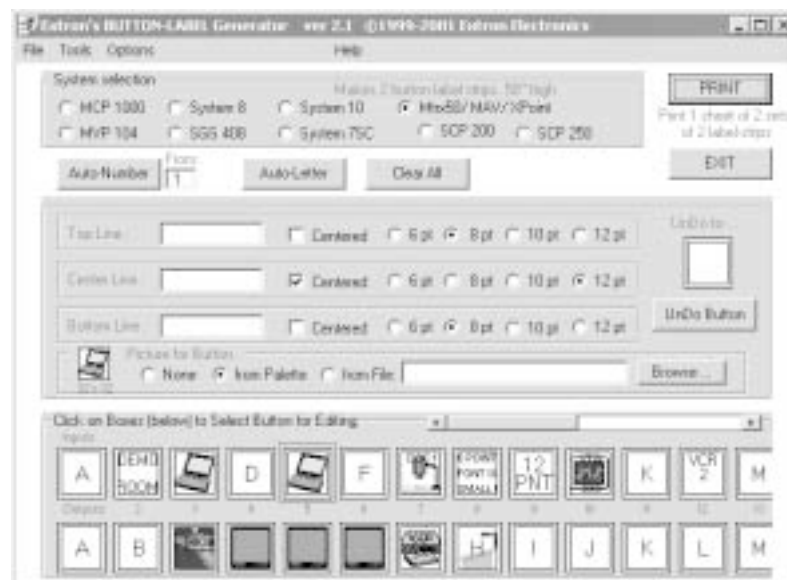

Figure 44 — Extron's Button-Label Generator window
1. To run the Button-Label Generator program, double-click on the Button-Label Generator icon (shown at left) in the Extron Electronics group or folder, and click OK when prompted. The Extron's Button-Label Generator window appears (figure 44).